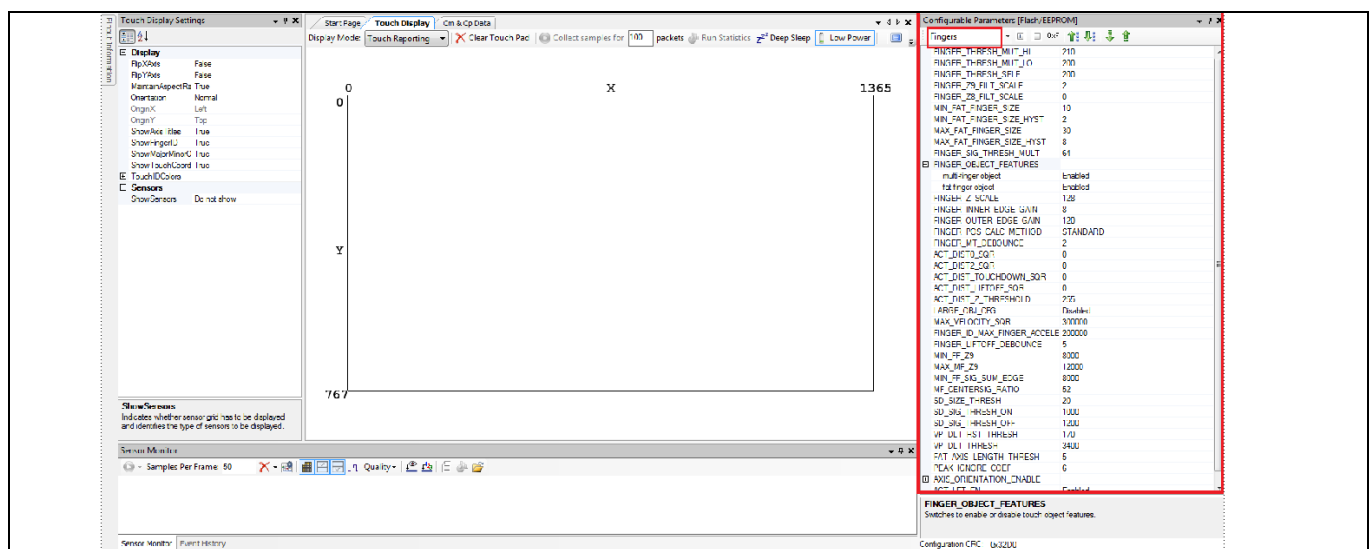

Figure 20 Configurable parameters window
2. If the Configurable Parameters window is not visible (see **Figure 20**), go to the TTHE menu bar and click on **View > Tool Windows > Configurable Parameters [Flash/EEPROM]**. The Flash Configurable Parameters window opens.